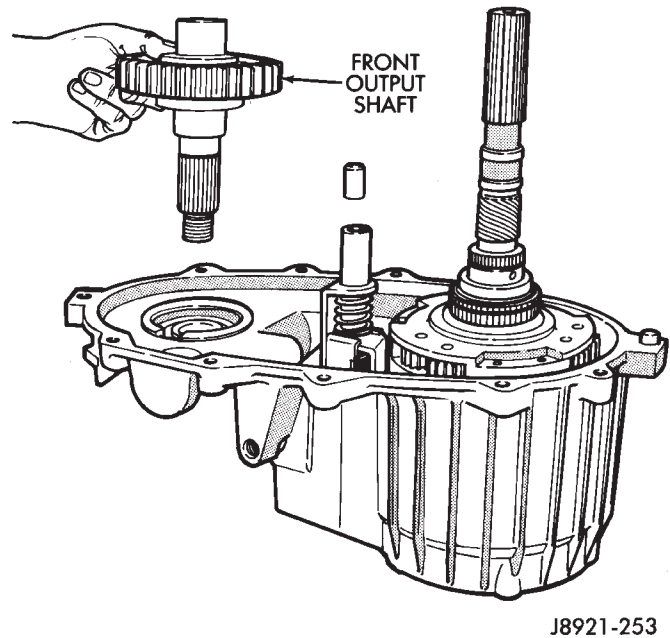

Fig. 21 Removing Front Output Shaft
(3) Remove front output shaft (Fig. 21).